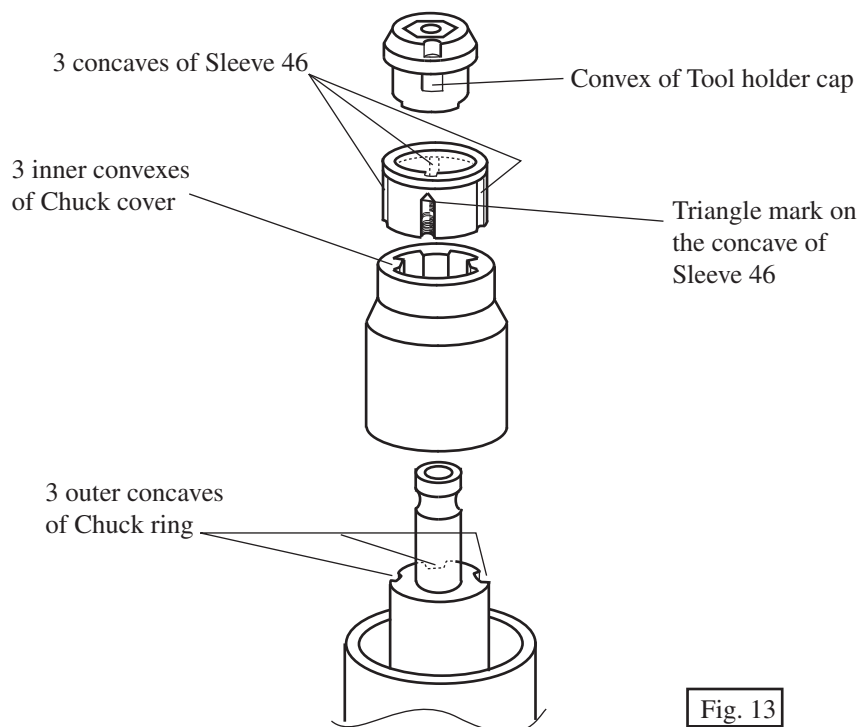

Fig. 13
2. When assembling chuck ring, chuck cover and sleeve 46, the following concaves and convexes have to meet each other. (see Fig.13)